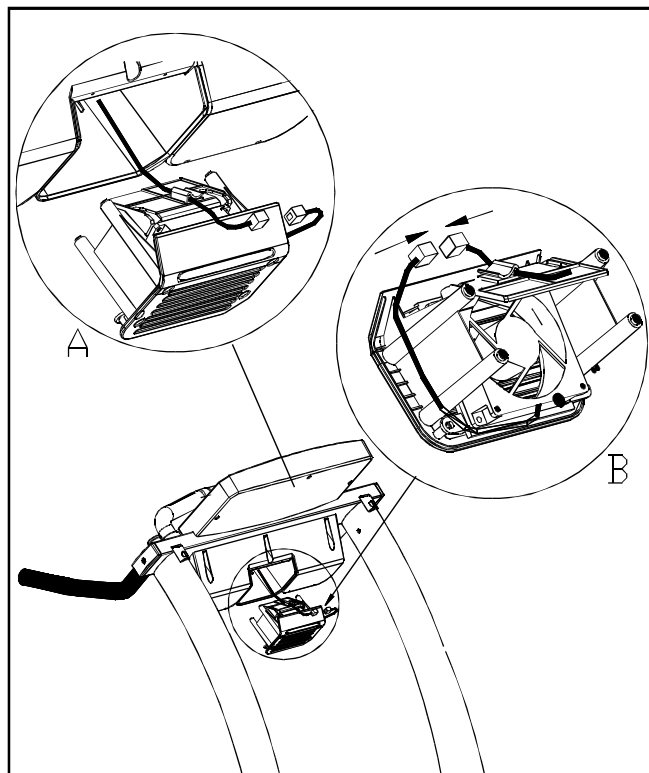

Fig.8
8. Place the wiring from the display in the clip on the fan assembly as shown in Fig.8A. Follow the wire routing in Fig.8A, and make connection. (See Fig.8)